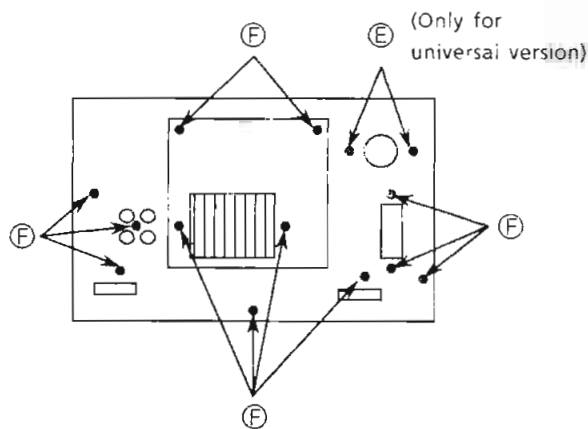

Figure 5 Rear view
2. Remove the screws ㉔ and ㉕ (Figure 5).